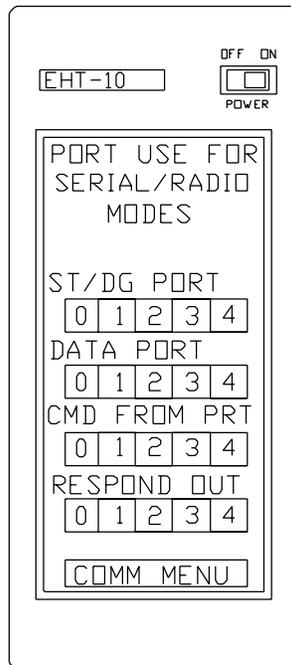

Figure 10 Port Use Menu
- * Press **Port Use** on the Communications Functions menu. FST displays the Port Use screen, as shown in figure 10.